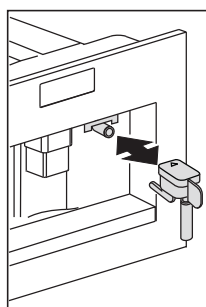
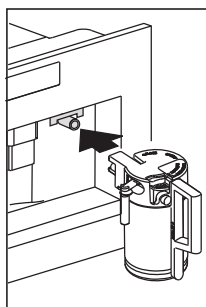

Fig. 13
Fig. 32
- ▶ Remove the hot water spout (Fig. 13) and attach the milk container to the nozzle (Fig. 32).